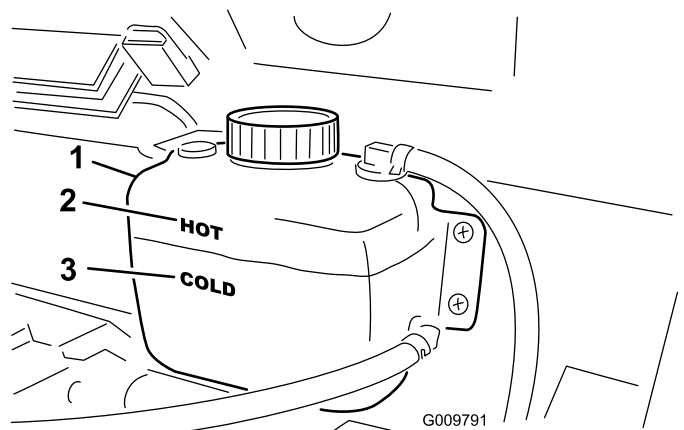

Figure 13
2. Check the coolant level at the reserve tank (Figure 13). The coolant should be up to the bottom of the filler neck.